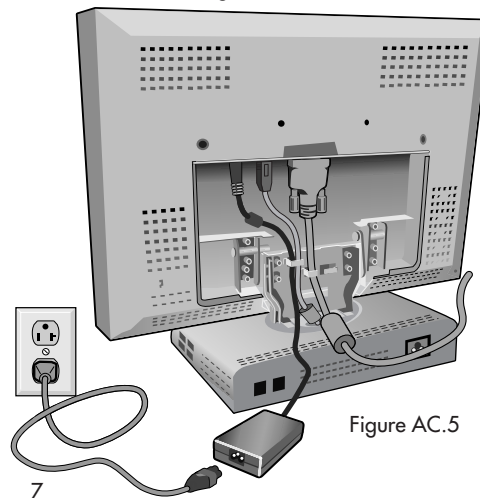

Figure AC.5
6. Reattach the bottom panel to the stand. Tighten all screws. To connect the AC Adapter outside of the stand, plug the AC Adapter cord to the back of the monitor "DC in" (Figure AC.5).